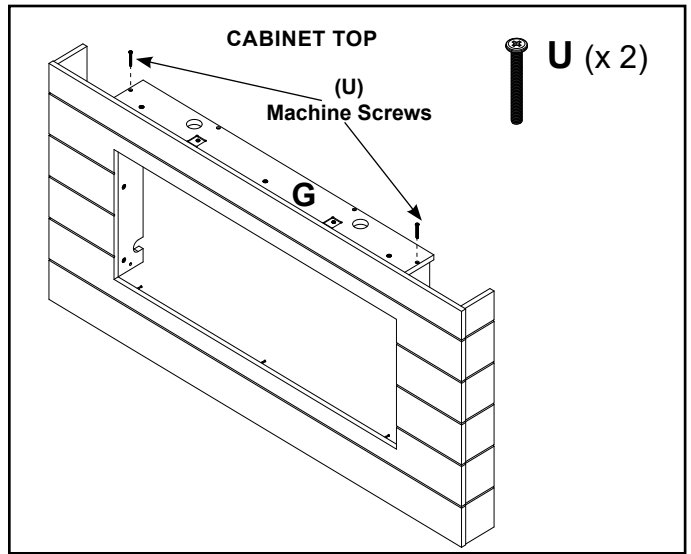

Figure 18
- Secure part "G" to parts "E" and "F" using M6 x 50 Machine Screws (U). See Figure 18.